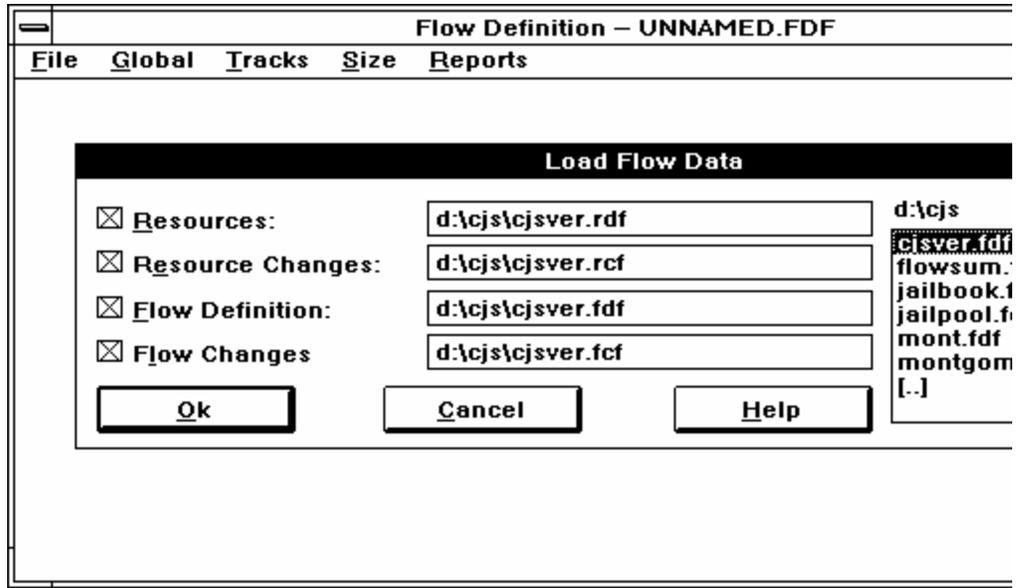

Figure 3-5 . All model files selected for loading.
6. Double-click the file named CJSVER.FDF. The system will automatically enter that filename and CJSVER.FCF beside the checked boxes. The screen will look like Figure 3-5 below.